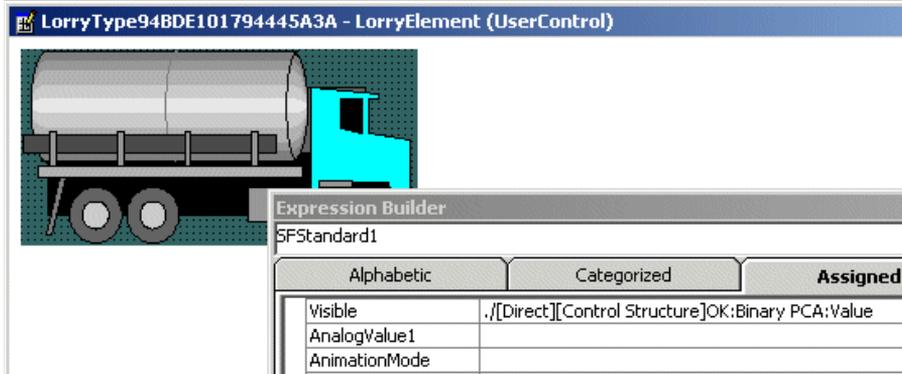

Figure 107. Connection string in Expression Builder
4. Use the Symbol Factory Control to add a symbol of a lorry into the **Graphic Element**. See Figure 107.